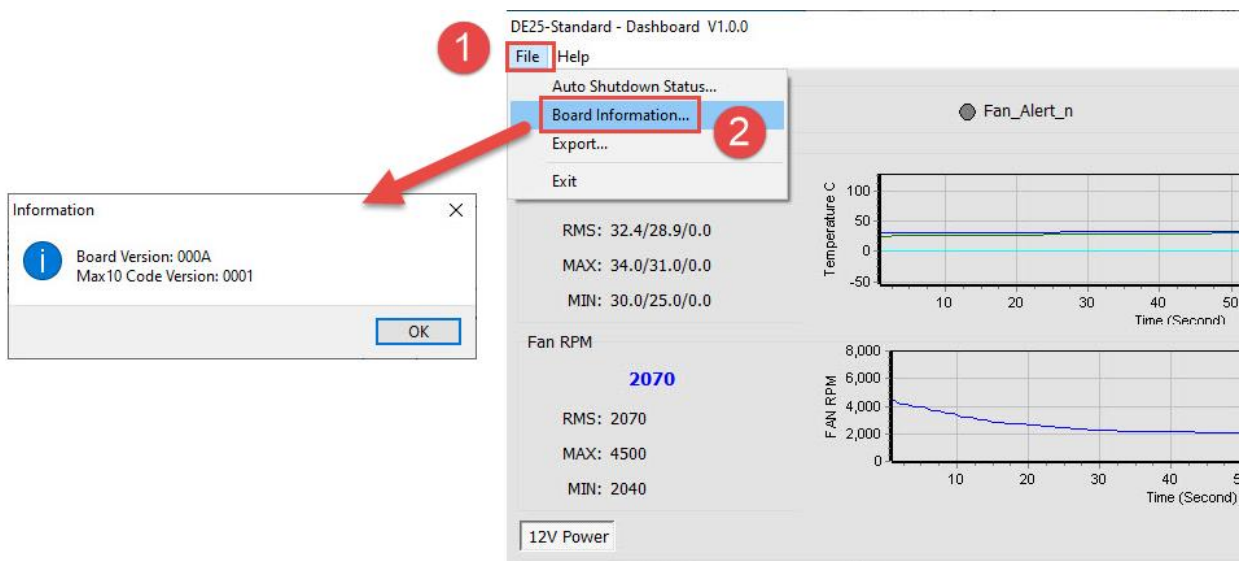

Figure 4-15 FPGA Status section
- **Board Information:** There is a File page on the upper left of the Dashboard GUI program window, click the Board Information to get the current software version and the DE25-Standard version, as shown in **Figure 4-15**. Note, user needs to stop the system monitor (press the “Stop” button on the Dashboard GUI), then you can run the Board Information.